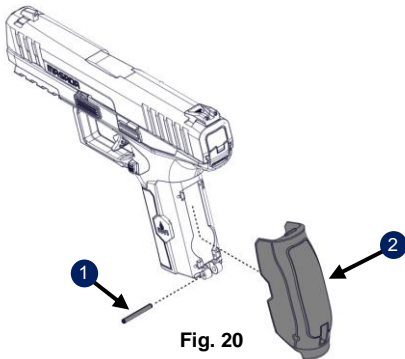

Fig. 20
1. Remove the backstrap retaining pin (1) from the backstrap, using a 2.5mm punch and hammer by tapping the pin out of the backstrap from either side of the pistol (Fig. 20).
2. Remove the backstrap (2) from frame (Fig. 20).